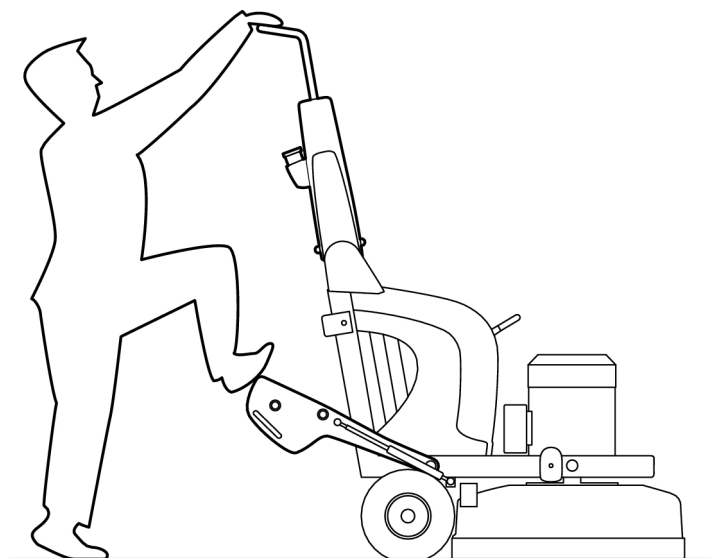

Figure 4-9. Foot on weight
2. Fold the weights back and place a foot on one of the weights, see Figure 4-9, page 22.